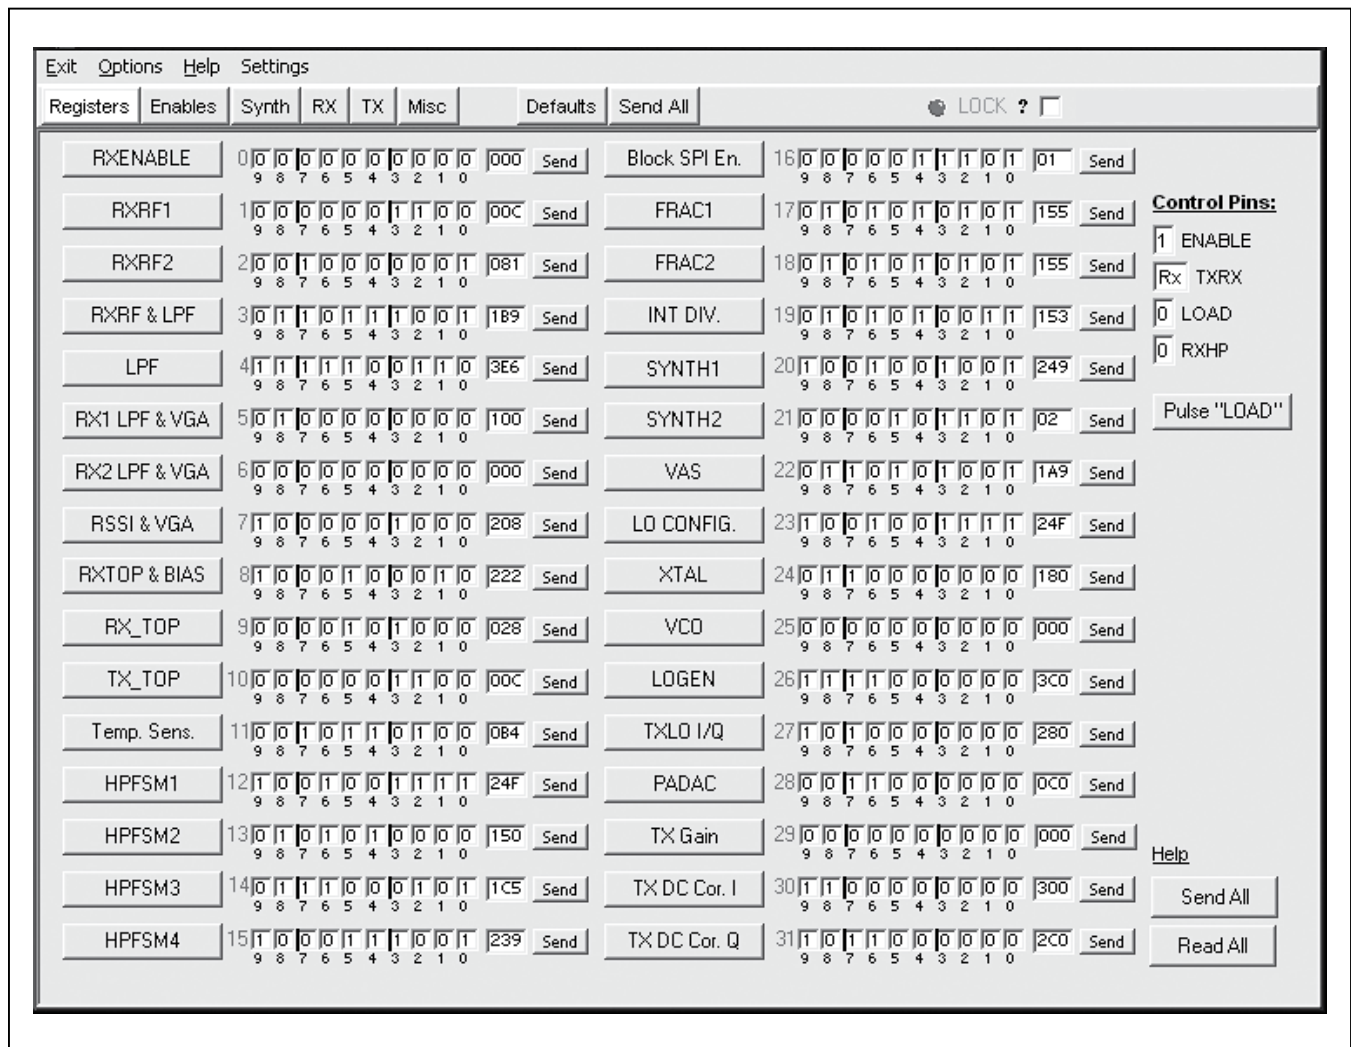

Figure 1. Receive Mode Register Setting
- 3) In the register panel of the software, enter the recommended register setting shown in Figure 1 for operating the MAX2839AS in steady state receive mode bench measurement. This setup fixes the VGA highpass corner at 1kHz.